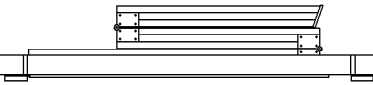

fig. 12
2. Lift the stairs through the opening into the attic space. Then lower them down squarely into the opening so the frame of the stair rests on the temporary cleats (figure 12). This is normally best done from below and can be done by one person, but it is very much easier and safer with two people.